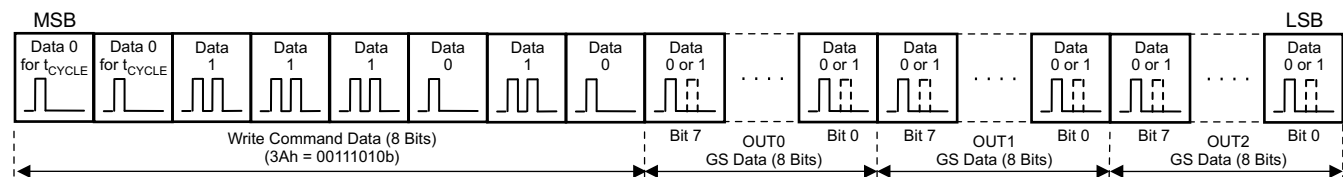
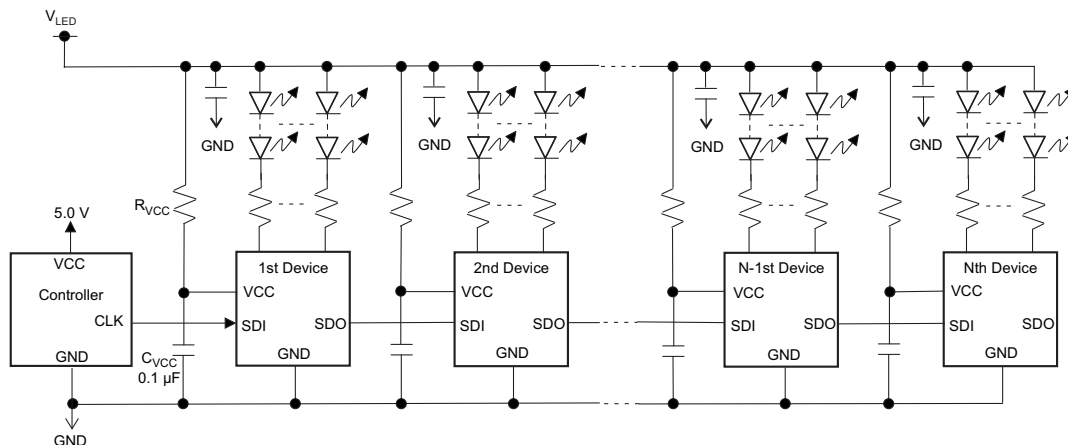

Figure 17. 32-Bit Data Packet Configuration for One TLC59731
Figure 18. Cascade Connection of N TLC59731 Units (Internal Shunt Regulator Mode)
The 8-bit write command and 24-bit grayscale (GS) data for OUT0 to OUT2 (for a total of 32 bits of data) must be written to the device. Figure 17 shows the 32-bit data packet configuration. When multiple devices are cascaded (see Figure 18), N times the packet must be written into each TLC59731 in order to control all devices. There is no limit on how many devices can be cascaded, as long as proper VCC voltage is supplied. The packet for all devices must be written again whenever any GS data changes.